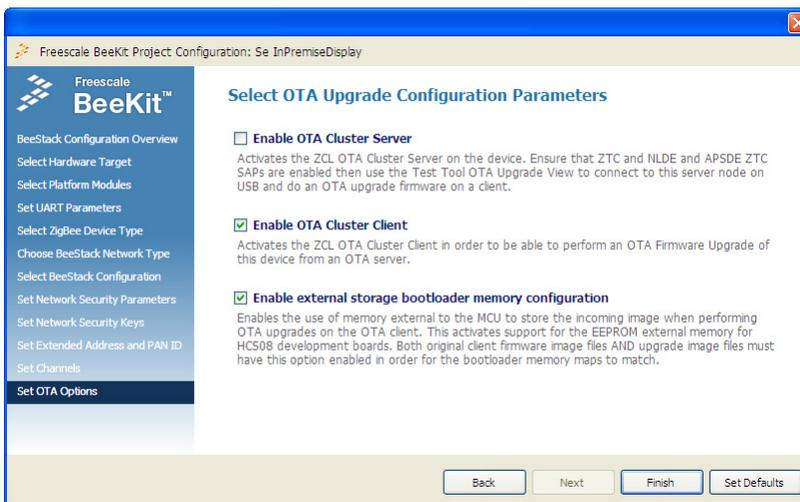

Figure 10-2. Enabling OTA Cluster Client on SE InPremiseDisplay and PCT
- Enable OTA Server Client and Enable external bootloader memory configuration options on the SE InPremiseDisplay and SE PCT as shown in Figure 10-2.